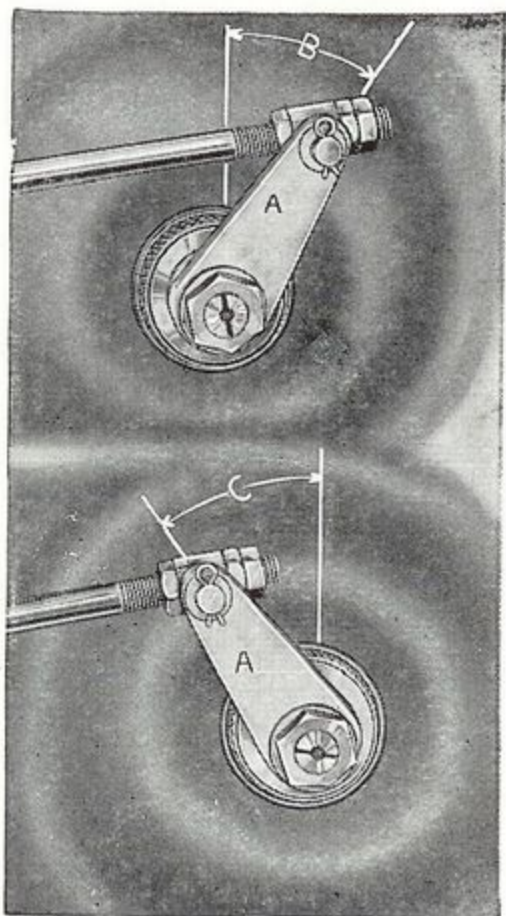

Figure 11
**Models 236, 336, 636**—The clutch is operated by means of lever "A" (Fig. 11). Full engagement is obtained with lever as shown in upper part of Fig. 11 and full disengagement as shown in lower part. (If the clutch drags in severe cold weather, it is not due to improper clutch adjustment but to an oil with too heavy a body. Use the next lighter grade of Indian Oil in your transmission). Adjustment may be made by fully engaging the clutch, removing the nut that holds the lever from the end of the shaft, turning the shaft by means of screwdriver slot and *replacing the lever in the exact angular position as before removal*.
The hole in lever "A" is eight-sided and is so cut that by turning the lever over sixteen different positions can be obtained. When the clutch is properly adjusted, angle "B" in the upper illustration of (Fig. 11) should be exactly the same as angle "C" in the lower illustration. When the clutch is fully engaged with the lever in the rear position, the heel pedal of the rocker pedal should be within one quarter of an inch of the footboard. This can be adjusted by shortening or lengthening the clutch rod by means of the clevis on the threaded end.